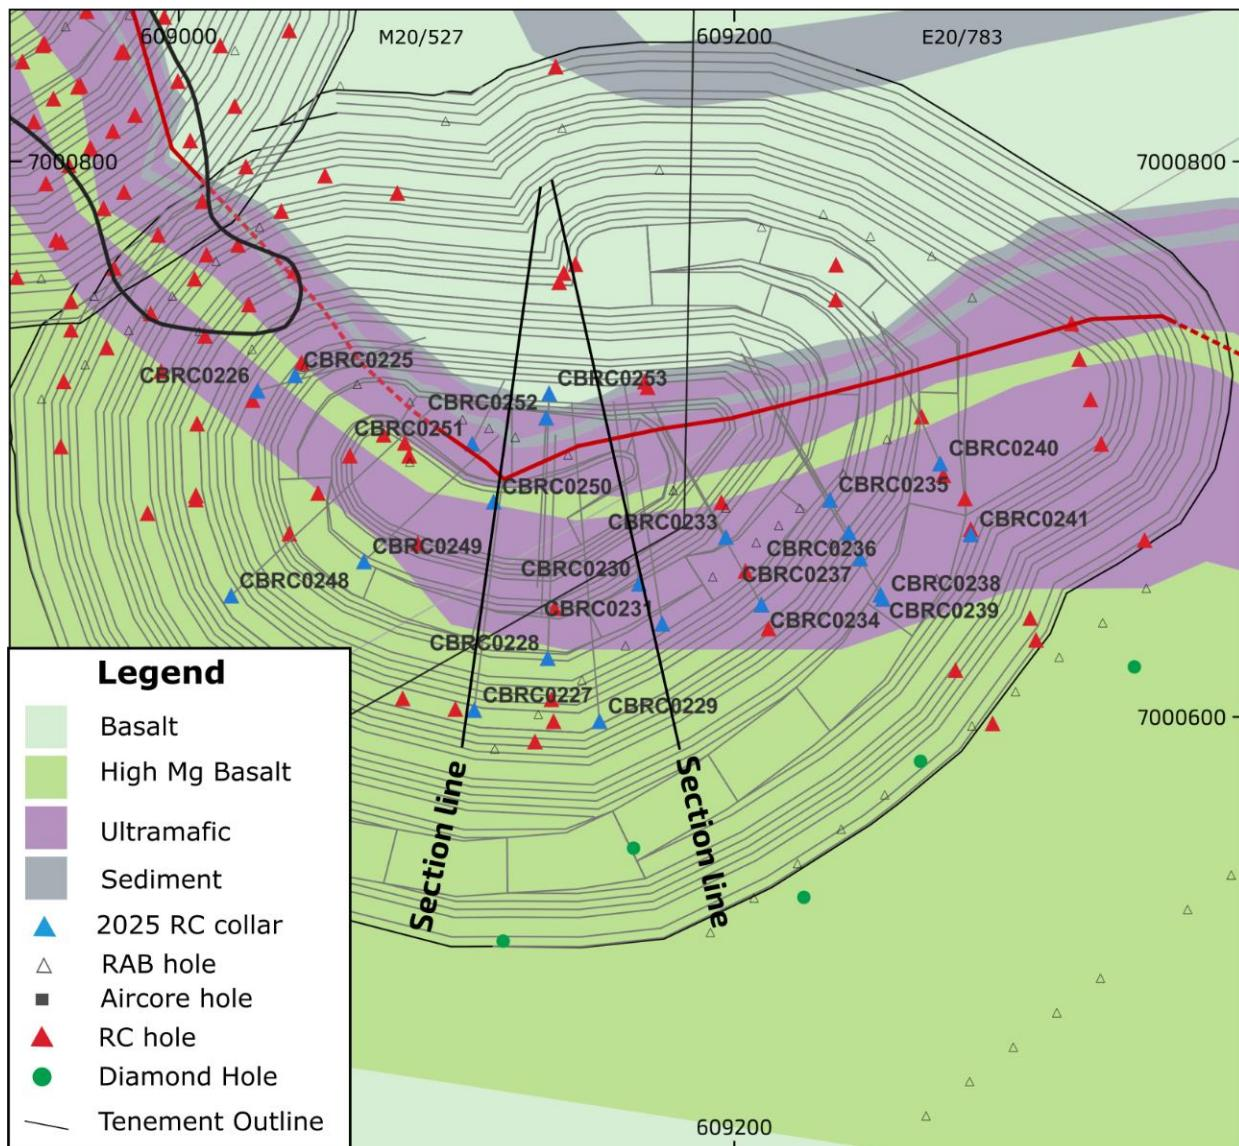

Figure 2 - Collar map for 2025 Highway Zone Drilling with A\$5,000/oz pit optimisation
The highest-grade mineralisation is located in the immediate hangingwall of the BIF 3 sediment (see Figure 3 & 4). Prior to the current program the Highway Zone was drilled on 80-100m spaced sections with 40-60m spaced holes on section (Figure 2).
*Figure 2 - Stereonet illustrating the hinge of the regional anticline reflecting the transition from the Cable- Bollard Trend to the Highway Trend and interpreted steep southerly plunge of the high-grade shoot*